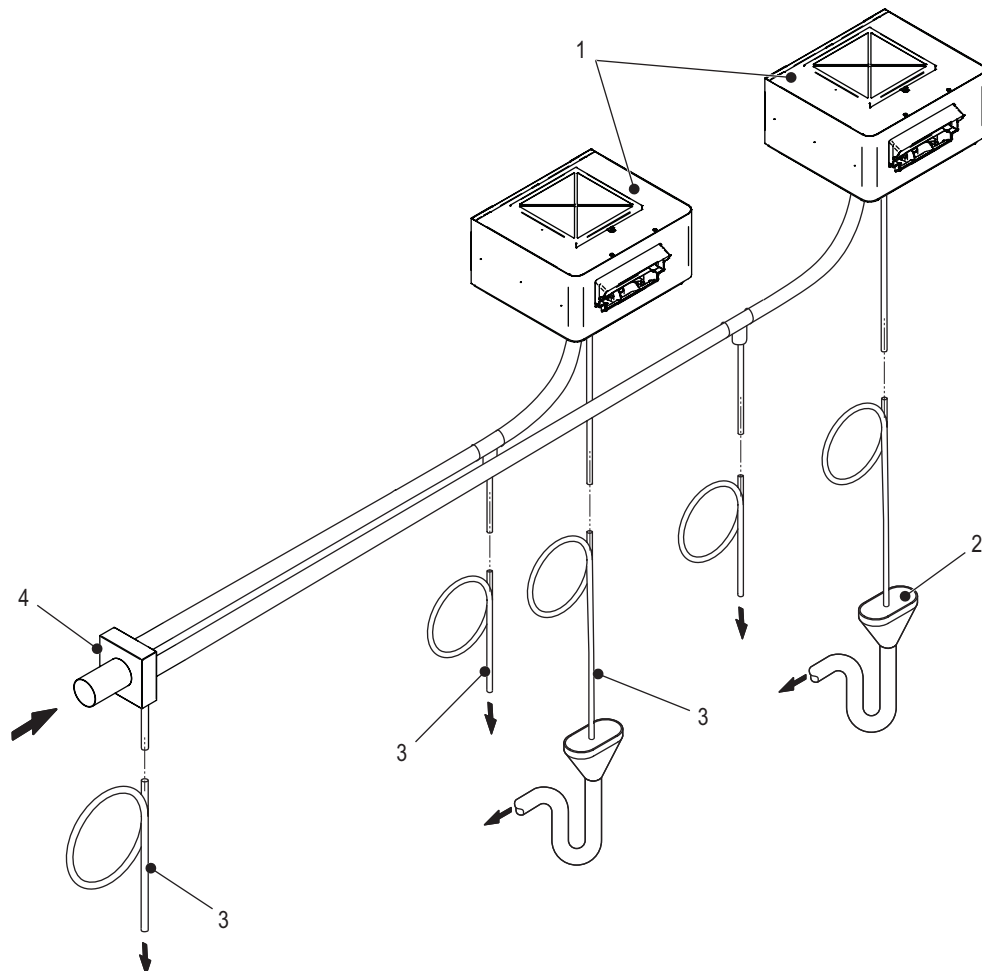

Figure 5: Typical Installation of Multiple Nortec BP with Nortec GS/SE Humidifier
In addition, multiple Nortec BPs can also be used remotely with Nortec GS 450/600 and Nortec SE 175-1050 humidifiers with the aid of breakout adaptors. Refer to Figure 5. Contact your Condair representative for additional details.
- For Nortec GS/SE humidifiers use a breakout adaptor to distribute the stream to more than one Nortec BP – refer to Figure 5 on page 17. For details of steam lines for Nortec GS/SE humidifier models contact your Condair representative.